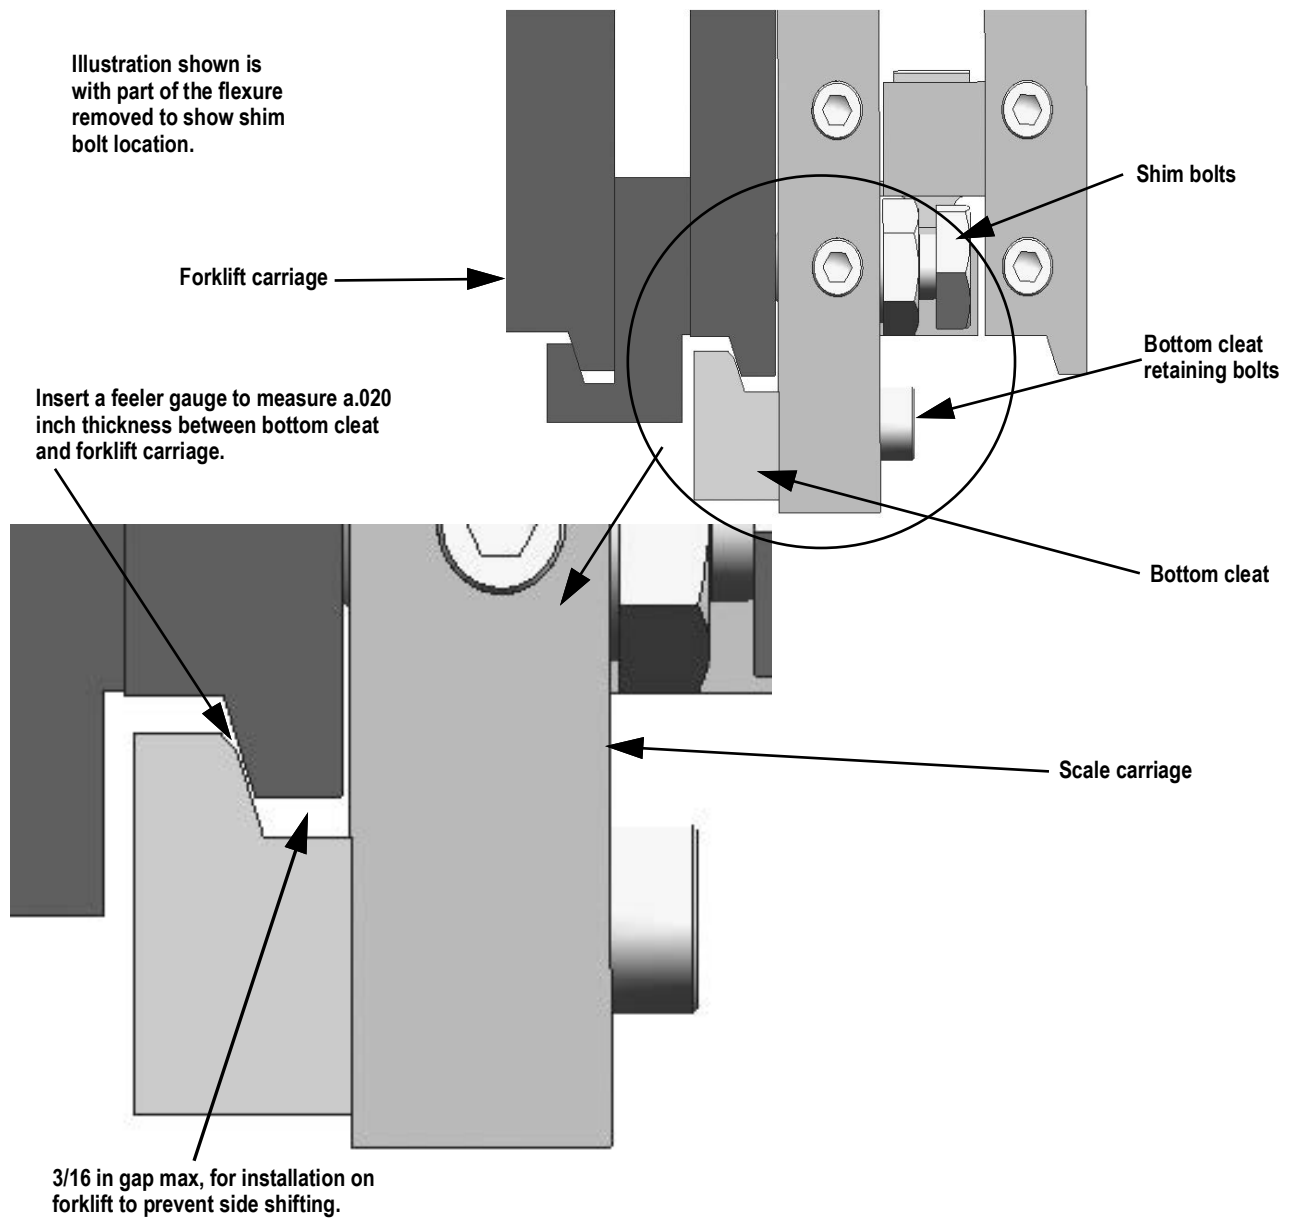

Figure 2-10. Bottom Cleat Location and Assembly
6. Attach the bottom cleats to the bottom of the scale assembly (see Figure 2-10 for bottom cleat location), so that the lip of the cleat is behind the scale carriage.